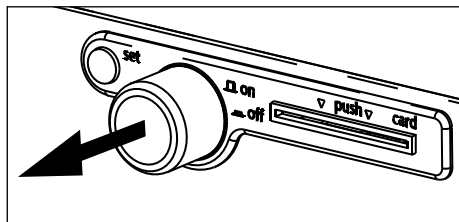

Fig. 12 Switch on cooled incubator
- ▶ Switching on: press the main switch so that it comes out of the appliance (Fig. 12).
2. Switch on the appliance. To do this, press the push-turn control on the operating panel so that it comes out of the appliance (see Fig. 12 on page 25).